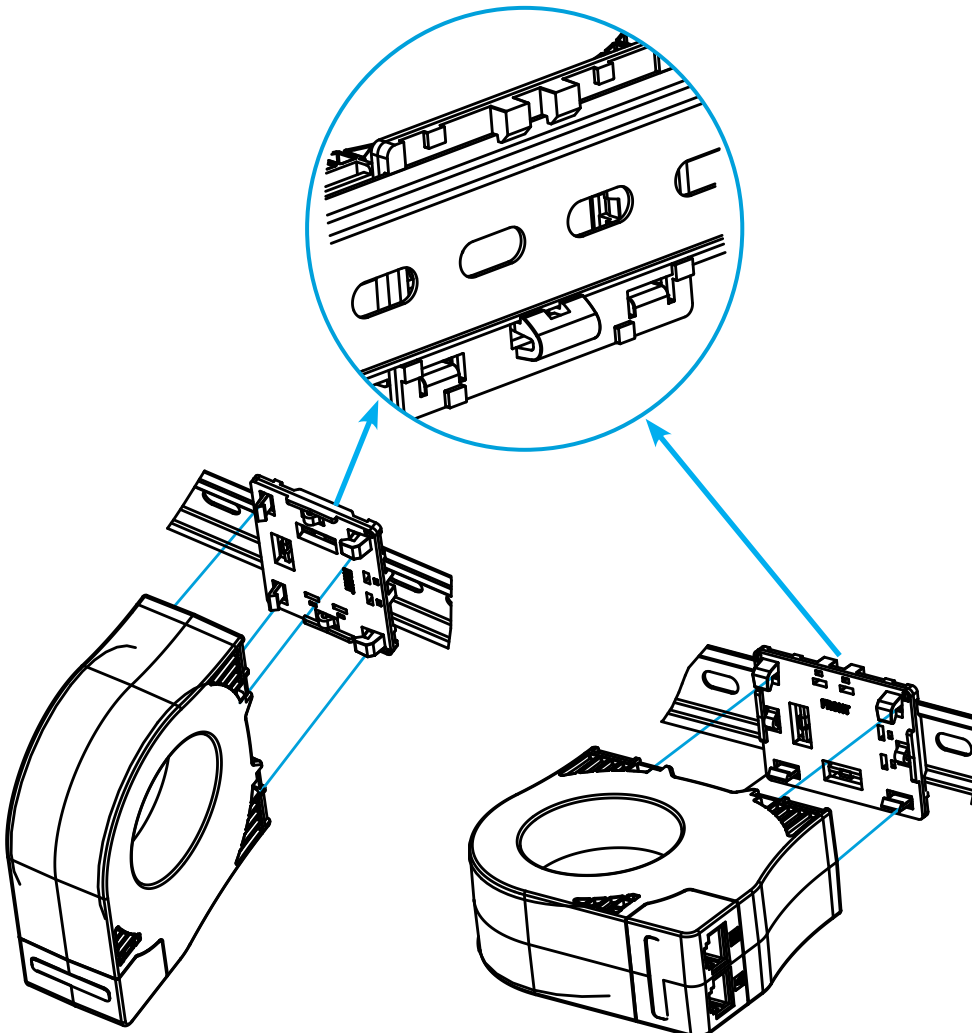

Figure 7: Installation on a DIN rail.
- 1.- Attach the bracket to the DIN rail. Be sure the side marked **FRONT** is visible. The bracket can be installed in 2 ways, depending on how the **WGB** is to be positioned, Figure 7.
- 2.-Mount the **WGB** on the bracket, Figure 7.